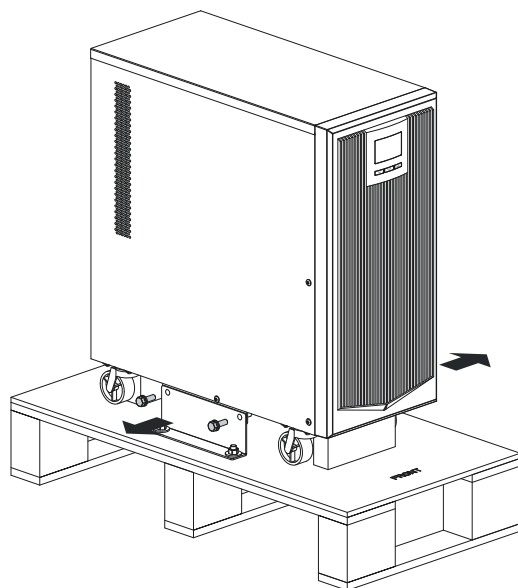

Figure3-2 Dismantle the hexagonal bolts
Step 6 If UPS is OK, dismantle four hexagonal bolts M8×20(two pieces on the left and right side respectively) between the anchor frame and anchor support plate, as shown in Figure3-2.